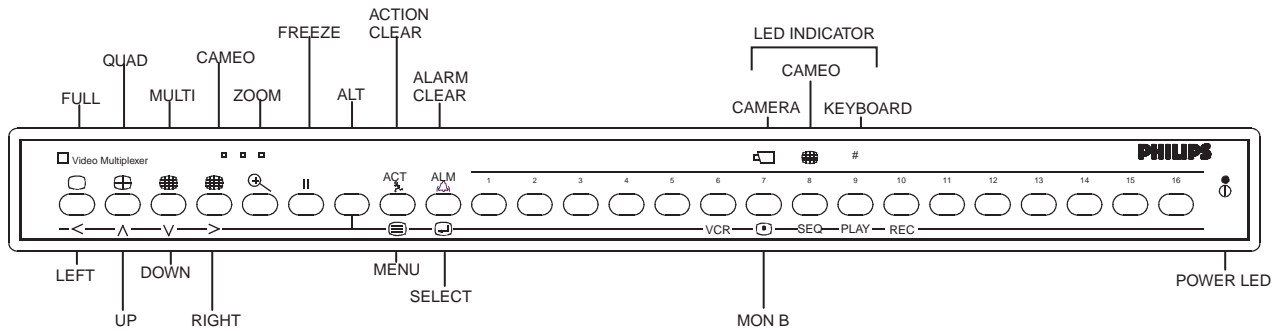

Figure 2D: 16-Channel Front Panel
3. Refer to Figures 2D, 2E and 2F for a detailed review of the multiplexer front panel controls which will be used in programming. Summaries of the control functions (primary and secondary) and the LED indicators are provided in the adjacent tables.